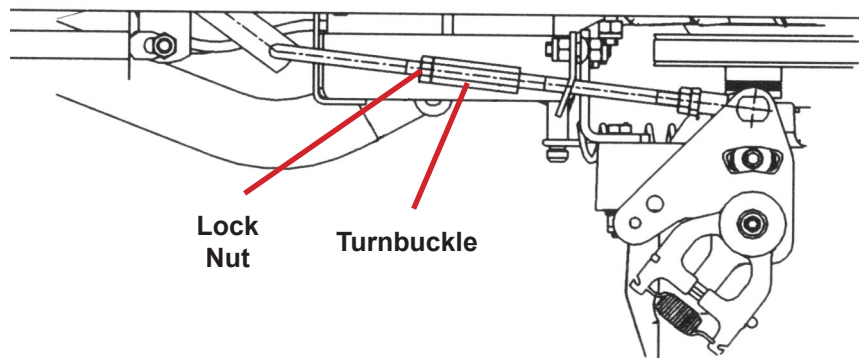

Figure 9
5. Place the left motion control lever to the neutral position. Loosen the lock nut on the lever. Rotate the turnbuckle in the middle of the lever to adjust the length of left hydrostatic transaxle in proper way until the wheel stops. Pull the lever slightly when it's in the neutral position. The motion control lever will rebound to the neutral position by the reaction power of a spring. The wheels will stop running or turn back slightly. After doing this, tighten the lock nut (*see Figure 9*).